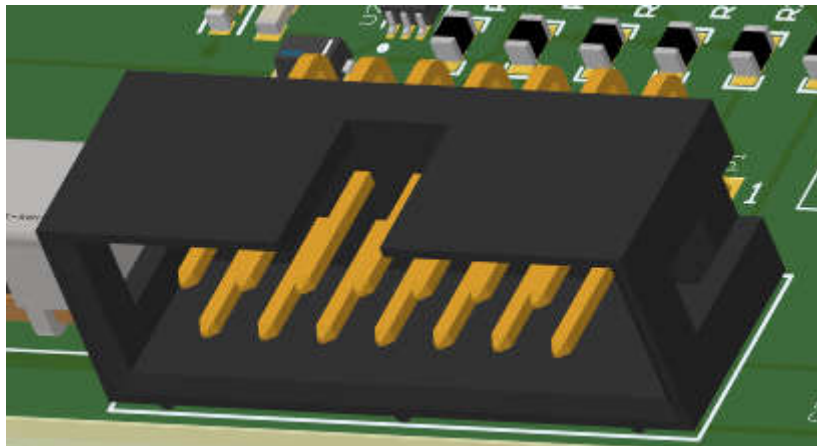

Figure 3-4. Keyed Header Socket
1. Connect the programmer board to a computer running InterConnect Studio using the provided USB cable. Make sure that a good connection is made between the TPLD-PROGRAM and the computer, indicated by the two blue LEDs on the TPLD-PROGRAM both being on. An example of a fully connected EVM can be seen in Figure 3-4.